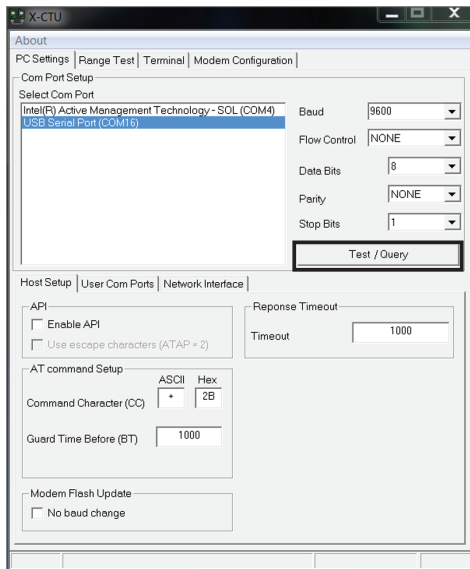
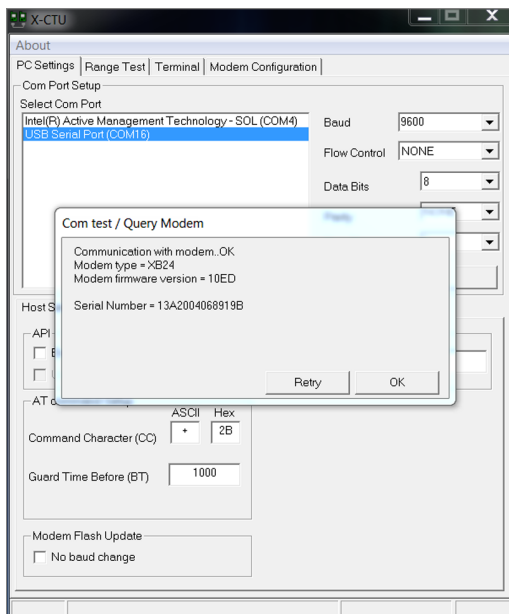

Figure 11-8: Main X-CTU window
Figure 11-9: X-CTU query confirmation
1. Download the installer, install X-CTU, and launch the application. Once launched, you should see a window like the one in Figure 11-8. A list of available Com ports appears on the left side of the window.
2. Select the Com port that your XBee explorer is connected to and click the Test/Query button highlighted in Figure 11-8. If this is a new XBee that is configured using default settings (a 9600 baud rate), the window shown in Figure 11-9 should pop up confirming the current configuration info has been read from the radio.